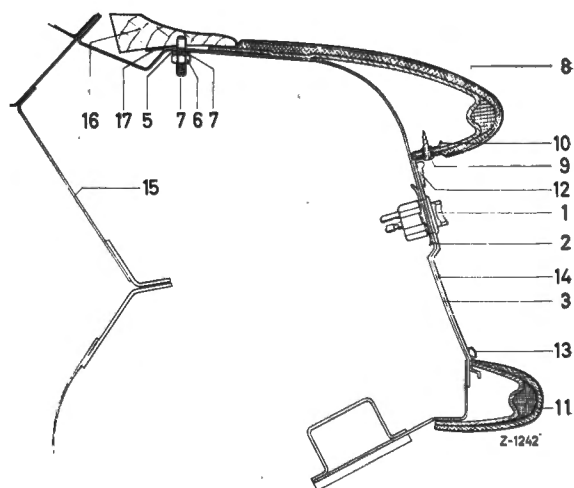

Fig. 67-1/4
2. Unscrew the retaining plate (13) for the rear view mirror.
4. Unscrew the three fixing nuts (6) for the right lower reveal molding and the two fixing nuts for the left lower reveal molding and remove the reveal moldings (Fig. 67-1/4).